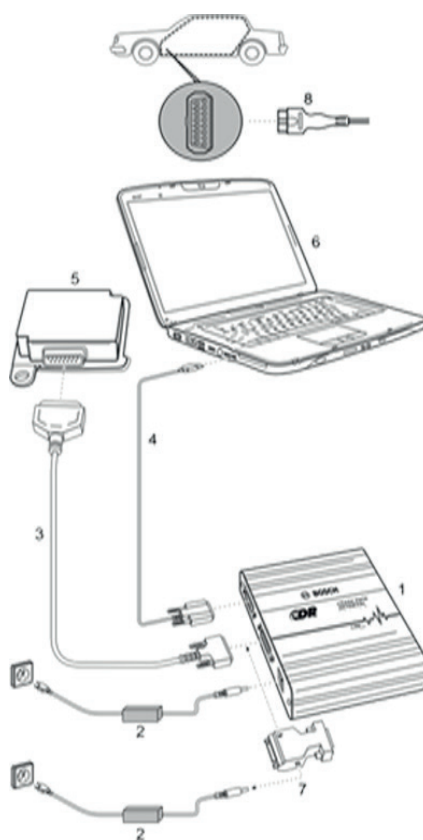

Fig. 2: Typical connection diagram for CDR data retrieval
**I** Certain ECUs may need to be powered by an optional adapter. In such cases, 12 Volts DC power has to be provided to the adapter which powers both the ECU and the CDR Vehicle Interface Module as shown in fig 2.